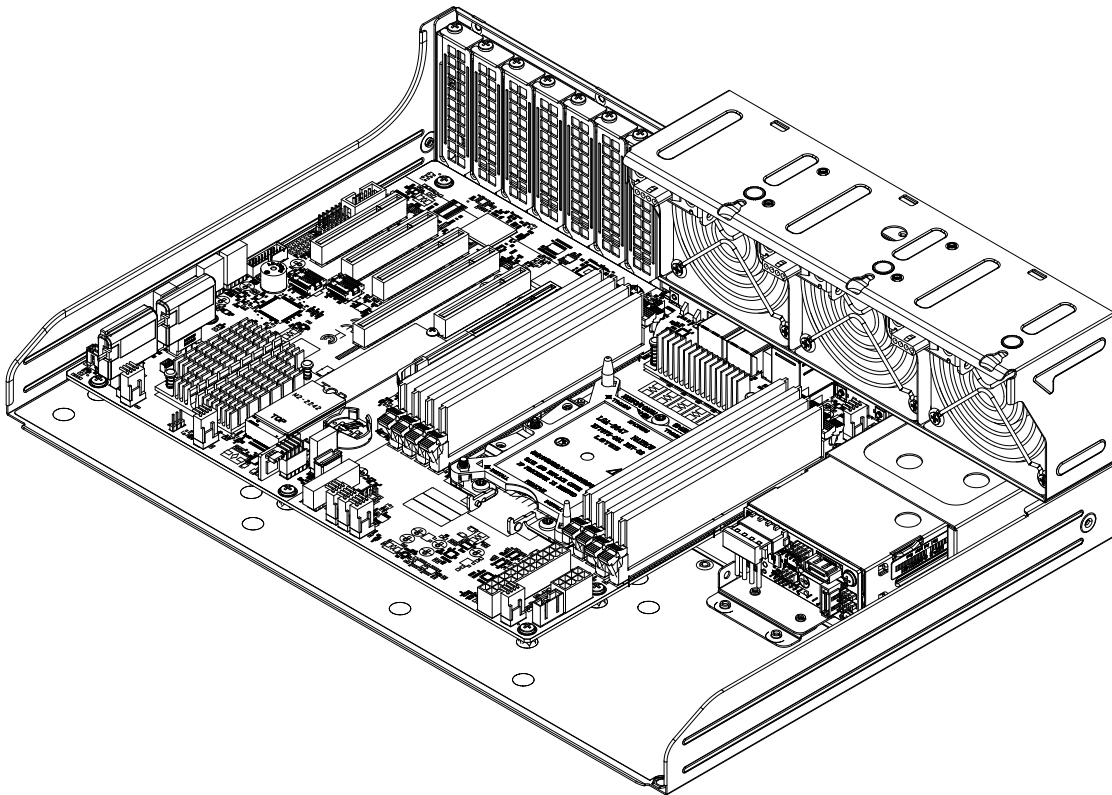

Figure 3-4. Motherboard Tray (shown without chassis for illustration only)
- **IPMI > Server Health > NVMe SSD** – Shows the temperatures of all NVMe drives, as in Figure 3-4.